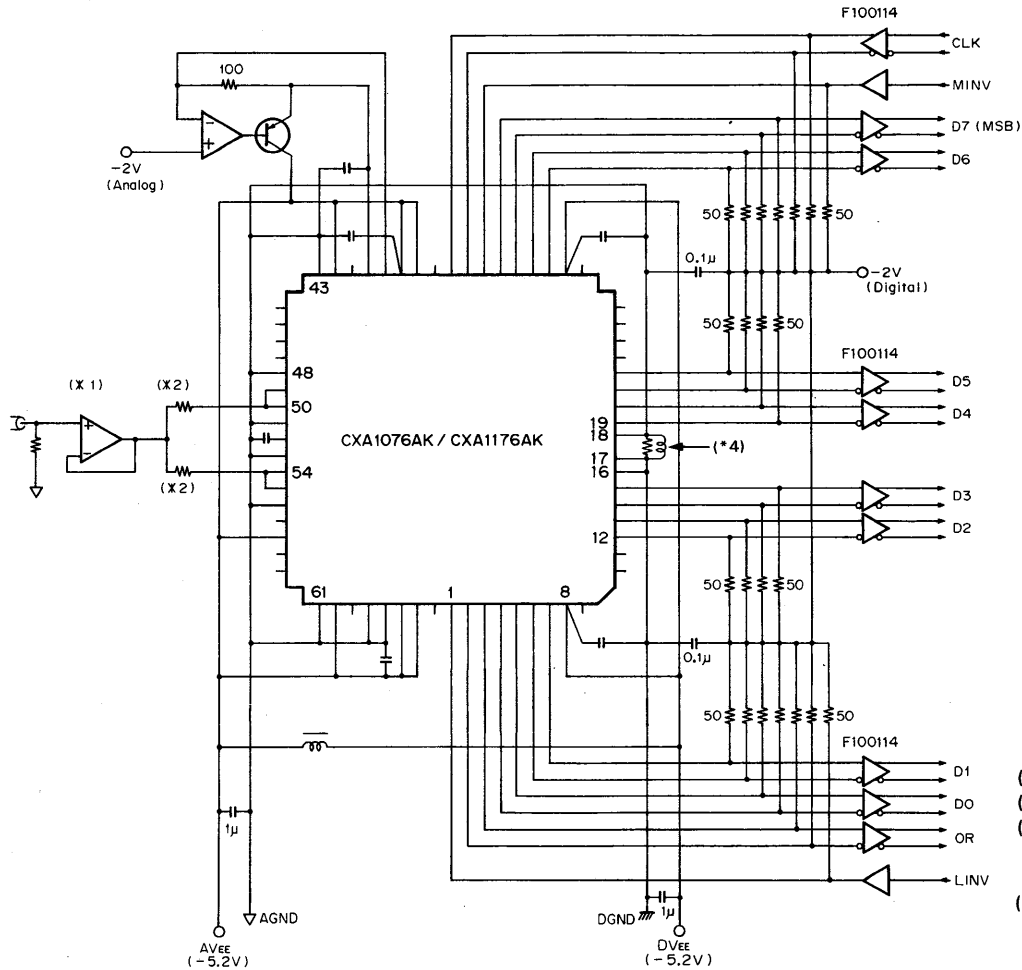

Fig. 3
- 7) As the analog input impedance of the device is capacitive, the driving amplifier occasionally falls into unstable condition and oscillates locally. This instability can be prevented with a resistor inserted in series between the output pin of the amplifier and  $V_{IN}$  pins of the device. The resistor is to be selected from 2 to 20  $\Omega$ . Separate input for  $V_{IN}$  as shown in an application circuit (Fig. 3) may give a good result.